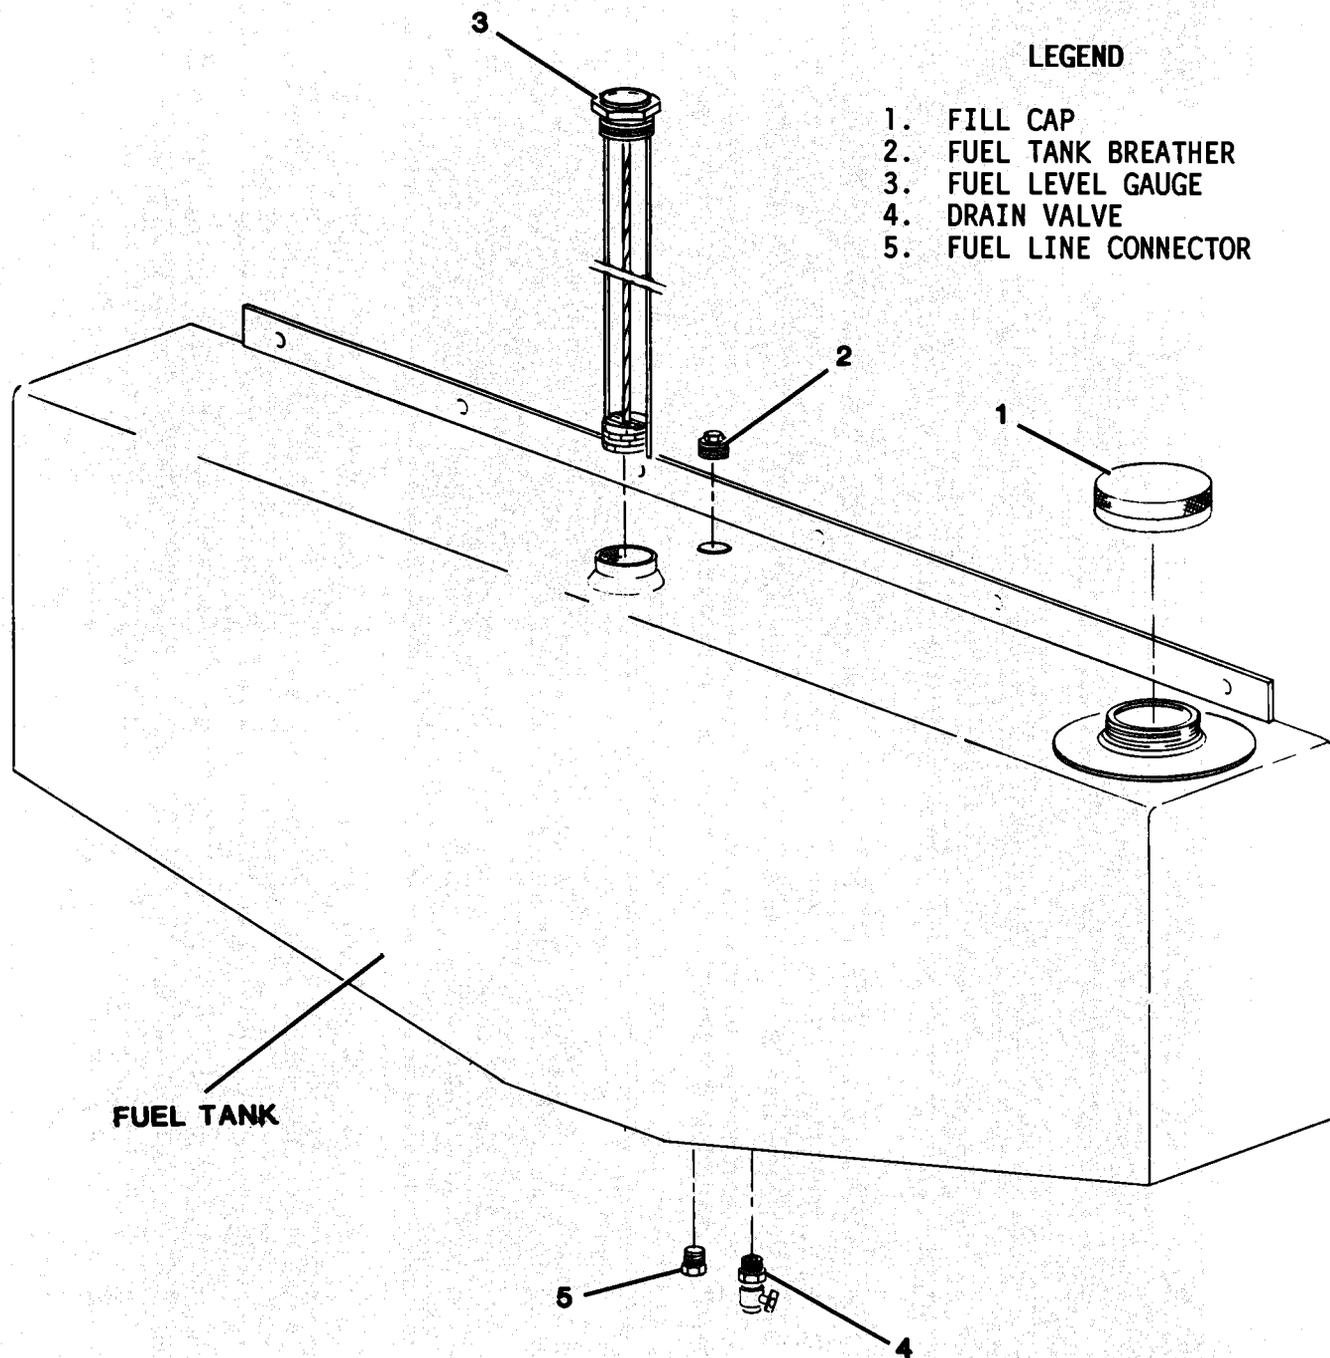

Figure 6-2. Engine Fuel Tank
**6-2. ENGINE FUEL TANK.** Maintenance of the engine fuel tank (figure 6-2) consists of repairing damaged welds and replacing damaged components.
(1) Remove fuel tank in accordance with paragraph 4-39d, TM 5-6115-612-12.
(2) Remove fill cap (1) from top of fuel tank.
(3) Loosen and remove fuel tank breather (2).
(4) Loosen and remove fuel level gauge (3) from top of fuel tank.
(5) On bottom of tank, loosen and remove drain valve (4).
(6) Loosen and remove fuel line connector (5).